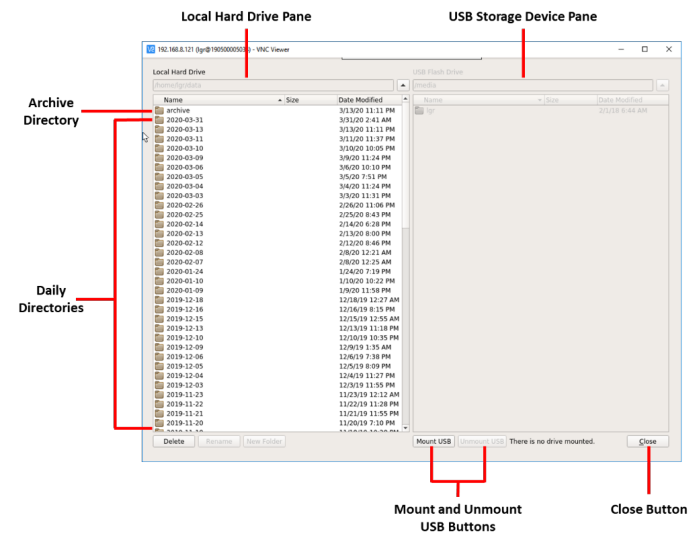
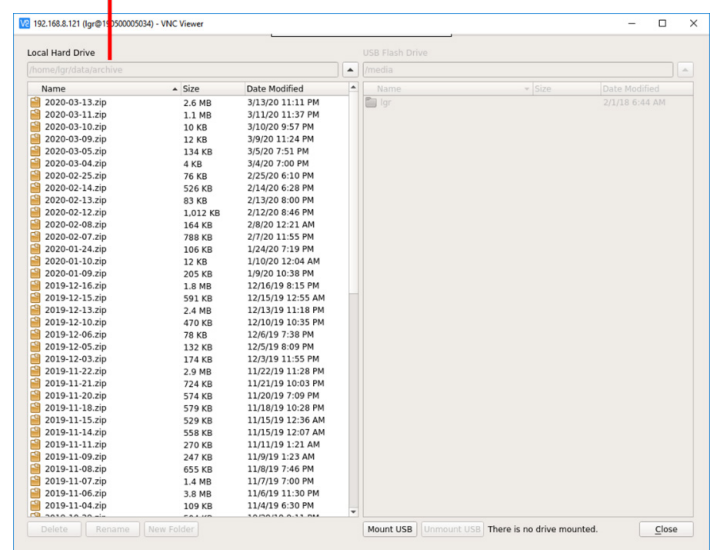

Figure 29 File Transfer Menu: Local Hard Drive (Left Pane) and USB Flash Drive (Right Pane)
Figure 31 Archive Directory
- Click the **Files** button on the *Control Bar* (Figure 21) to access the *File Transfer* menu. (Figure 29)
- Click the **Mount USB** button. (Figure 29)
The local hard drive (Figure 29) creates an archived folder containing zipped files organized by date. (Figure 31) To access the archived files, double-click the **Archive** folder. (Figure 29)
Examples of files in the archive directory are shown in Figure 31.